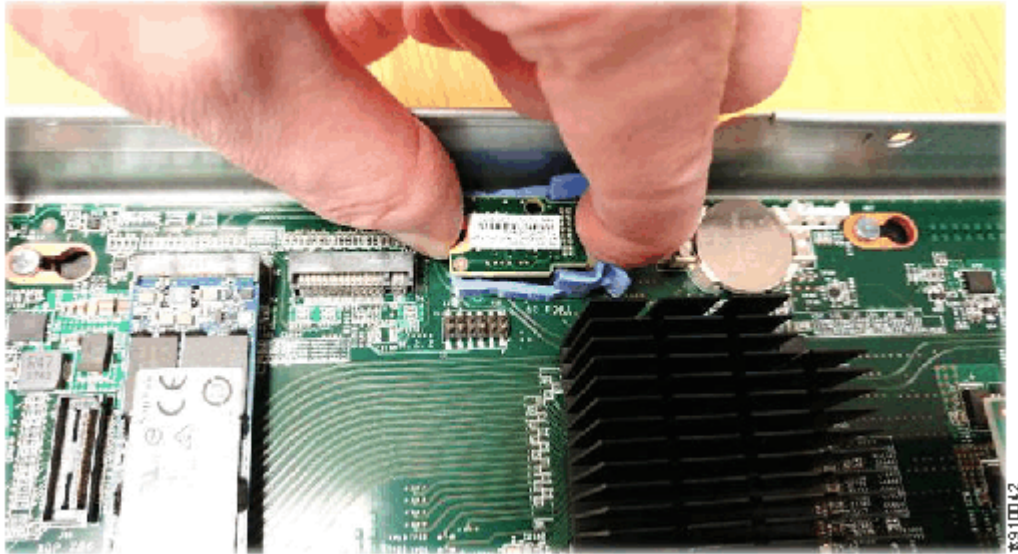

Figure 97. Removing the TPM
7. Insert your finger tip between the latches and hold the TPM between your thumb and finger, as shown in Figure 97 on page 144.